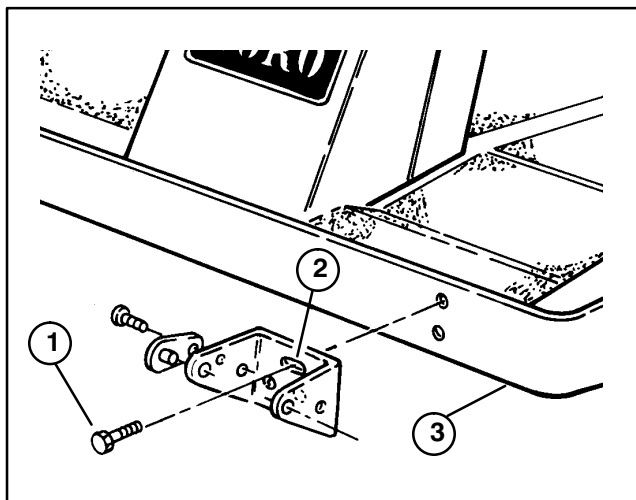

Figure 9
3. To install the mounting brackets, insert (2) 3/8–16 x 1" lg. flangehead capscrews through the slotted bracket holes. Thread the screws into the captivated frame nuts and torque to 45–50 ft–lb (Fig. 9).